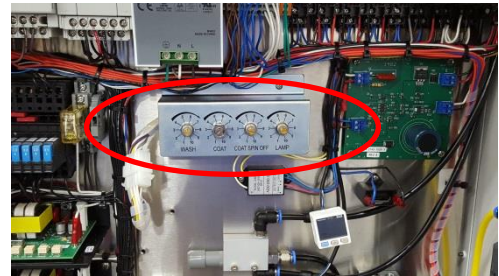

Figure 8 - Speed adjustment potentiometers
SPINDLE1 ON COAT – Selecting this button allows adjustment of the coat speeds for spindle #1 using the COAT potentiometer as shown in Figure 8 on page 18.
COAT SPIN OFF – Selecting this button, with COAT SPEED button ON, allows adjustment of coat spin-off speeds with the COAT SPIN OFF potentiometer as shown in Figure 8.
SPINDLE 1 WASH – Selecting this button, with COAT SPEED button ON, allows adjustment of the wash speed with the WASH SPEED potentiometer as shown in Figure 8.
- a. Adjust the speed to 400 RPM by turning the potentiometer, located behind the side access service door as shown in Figure 8, clockwise to increase or counter-clockwise to decrease the speed.
4. If the measured time is not 15 – 17 seconds, adjust the lamp potentiometer (see Figure 8) as follows: